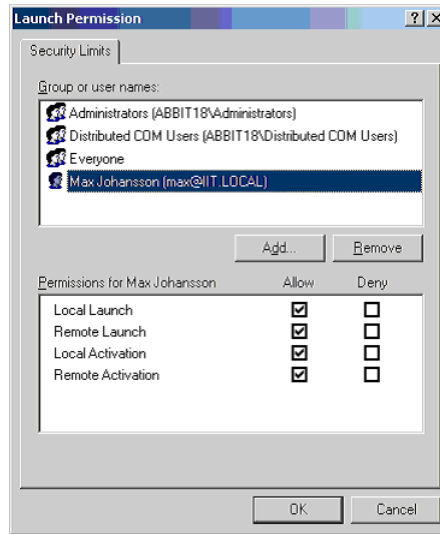

Figure 70. Launch Permissions Dialog Box
4. Add the engineering user, in this case Max Johansson, and give him/her the permissions according to Figure 70.